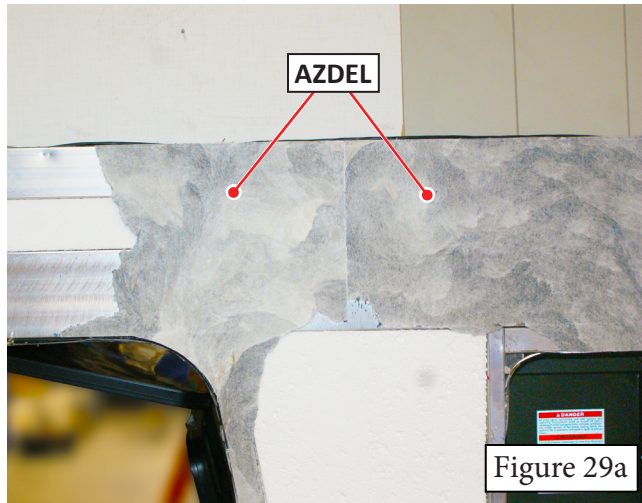

Figure 29a
10. The fiberglass is backed with an azdel material which may separate from the fiberglass and stick to the structure. Once all of the fiberglass has been removed, use a putty knife, oscillating multi-tool or a grinder, remove ALL of the azdel and any residual adhesive from the aluminum wall structure (Figure 29a and 29b).